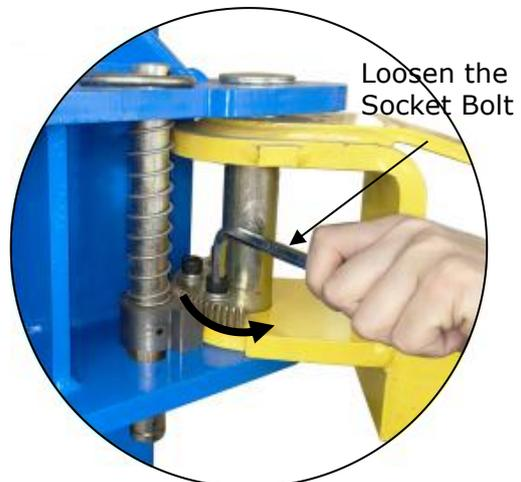

Fig. 27
2. Lowering the carriages down to the lowest position, then use the 10# socket head wrench to loosen the socket bolt (See Fig. 27)